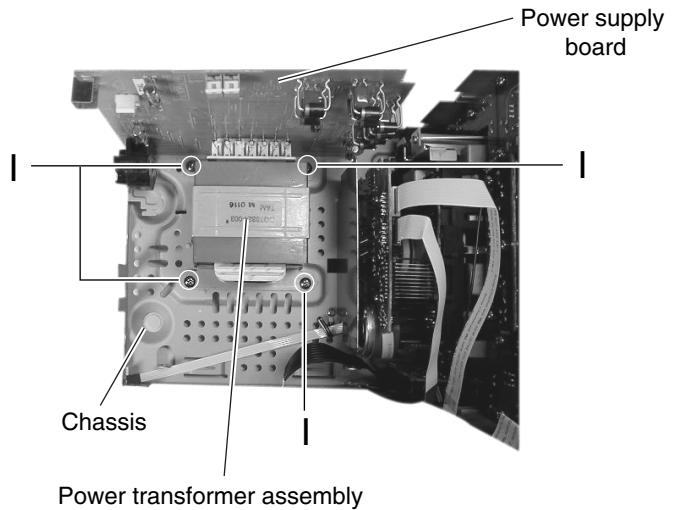

Fig. 19
**■ Removing the power supply board and the power transformer (See Fig. 19)**